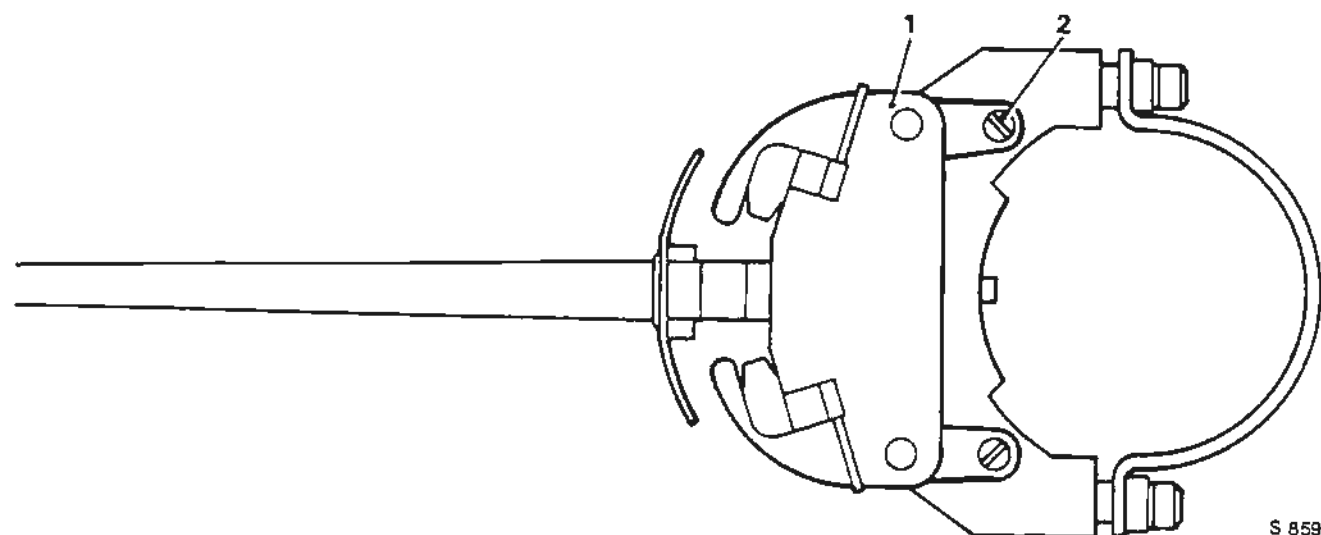
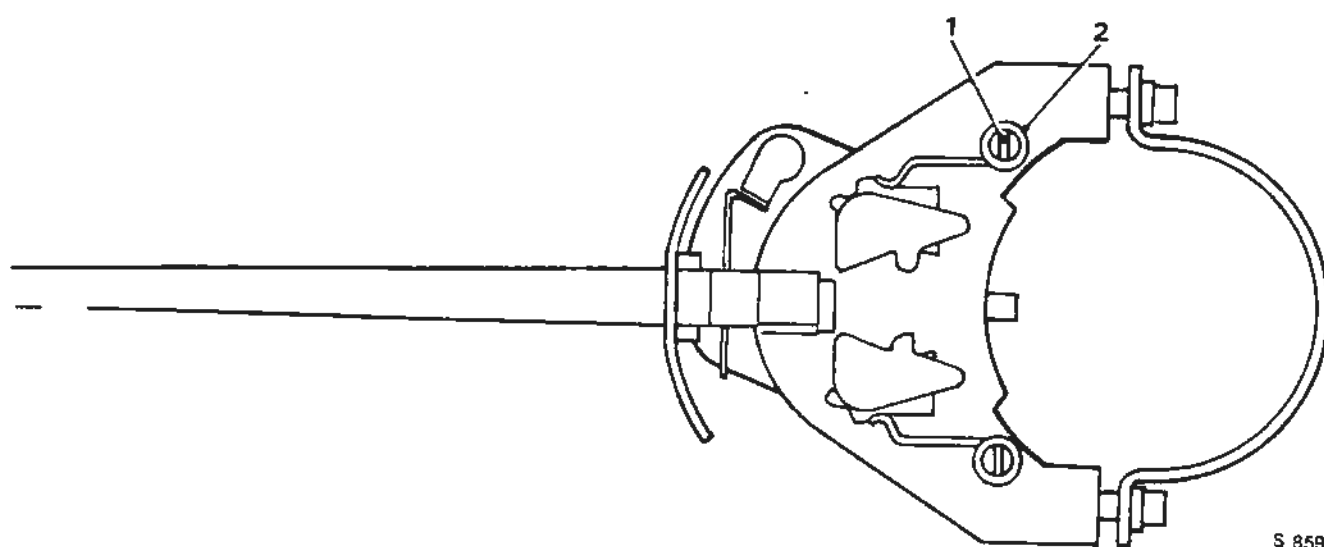

Figure 1. Direction indicator switch (UR 16530)
Figure 2. Modified component
2. Remove the two screws and discard the brown insulation board (see Fig. 1). Replace the screws with a washer (X 4401) behind each screw head (see Fig 2).